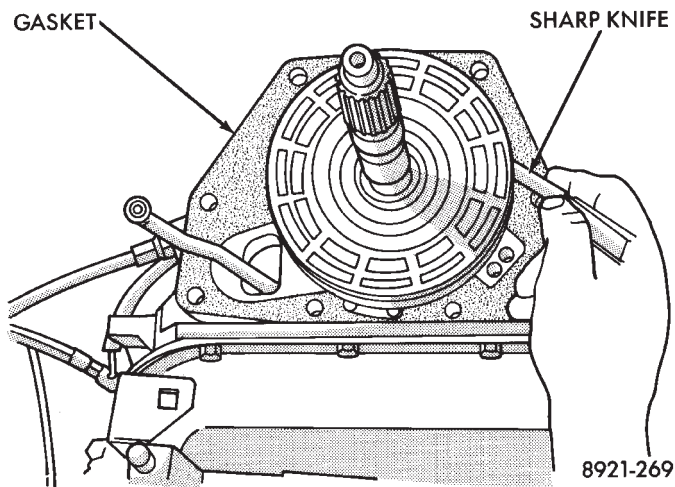

Fig. 44 Trimming Overdrive Case Gasket
(1) Be sure overdrive unit Alignment Tool 6227-2 is fully seated before moving unit. If tool is not seated and gear splines rotate out of alignment, overdrive unit will have to be disassembled in order to realign splines.
(2) If overdrive piston retainer was not removed during service and original case gasket is no longer reusable, prepare new gasket by trimming it.
(3) Cut out old case gasket around piston retainer with razor knife (Fig. 44).
(4) Use old gasket as template and trim new gasket to fit.
(5) Position new gasket over piston retainer and on transmission case. Use petroleum jelly to hold gasket in place if necessary. Do not use any type of sealer to secure gasket. Use petroleum jelly only.